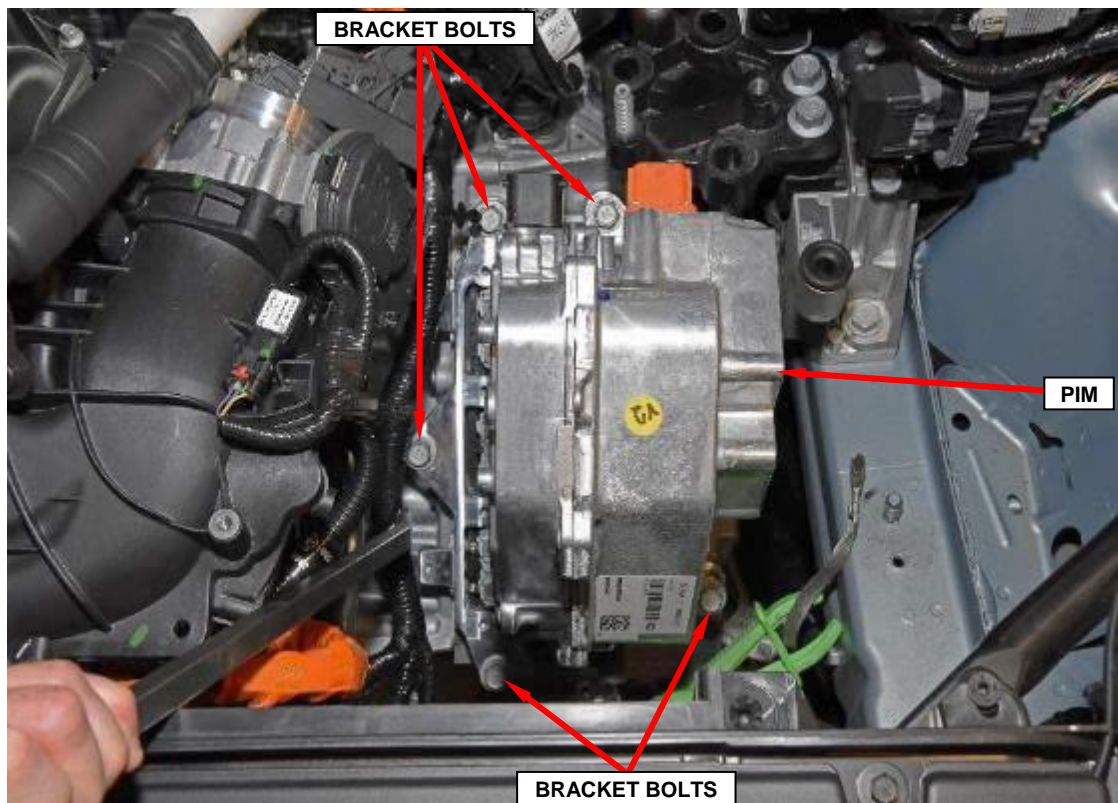

Figure 36 – PIM to Transmission Bolts
64. Remove and save the five bolts securing the PIM to the transmission housing (Figure 36).
65. Remove and save the PIM from the transmission housing (Figure 36).